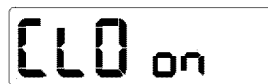

Fig. 1
1. Press and continue to press USER PREF until you reach the preset clock display mode -Fig. 1-